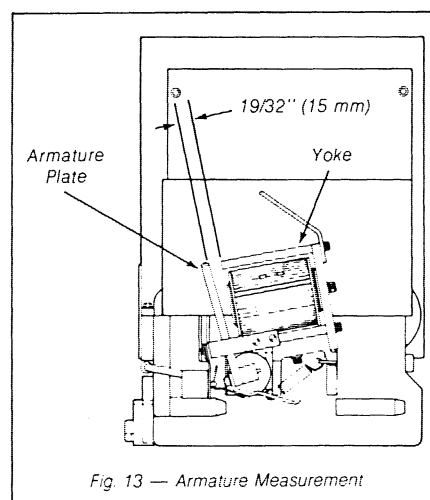

Fig. 13 — Armature Measurement
33. Close the armature manually to the point of contact touch. Measure the yolk to armature plate gap using a scale (see Figure 13). If the measurement is greater than 19/32" (15.1 mm) turn down the contact adjustment nuts, which will rotate the movable contacts away from the stationary contacts, until the gap is less than 19/32" (15.1 mm). It may be necessary to alternatively turn down the adjustments nuts on all power poles.
36. Check the action of the movable contact support assembly. The assembly must return to the rubber stops in the contactor base when the armature is released from contact touch (see Figure 13).